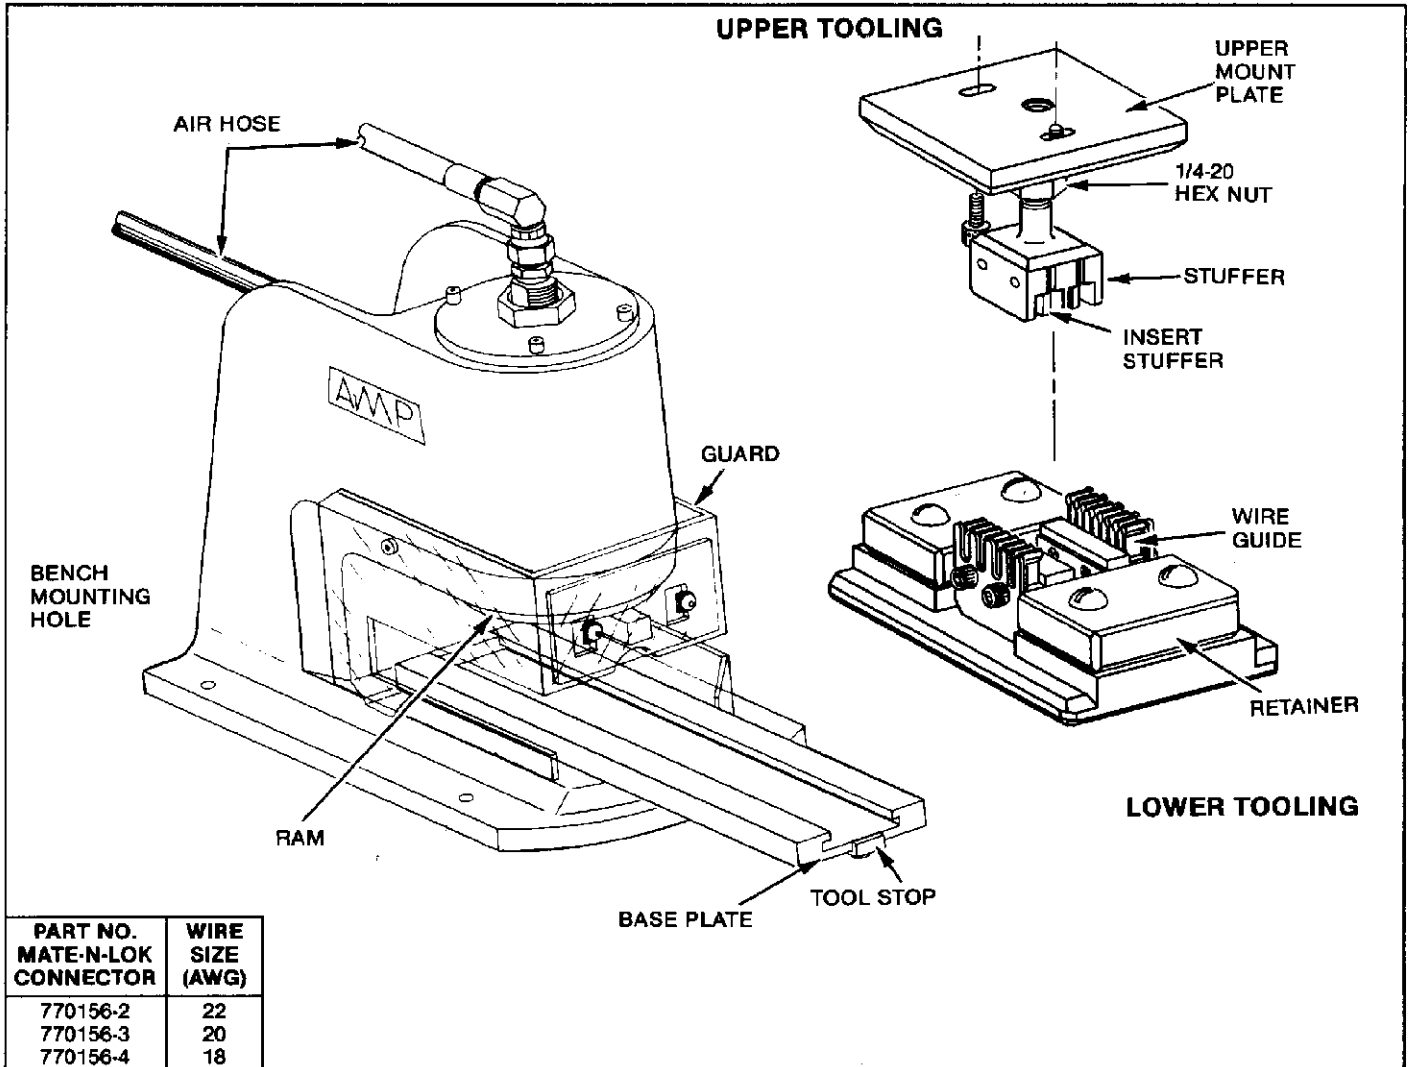

Fig. I-1
AMP MATE-N-LOK Connector Tooling Assembly 231920-2 is designed for use with AMP Pneumatic Arbor Frame Assembly 91112-2 to mass terminate unstripped discrete (stranded) wires to the AMP Commercial MATE-N-LOK Connectors (Plug Assemblies) listed by part number in Figure I-1. Ribbon cable can be terminated to these connectors, providing the cable meets the wire and insulation requirements listed in AMP Application Specification 114-49001.
7. Remove and inspect the terminated MATE-N-LOK connector according to Application Specification 114-49001. Access to the terminated connector is gained through the front of the guard (see Figure I-1). Be especially sure to